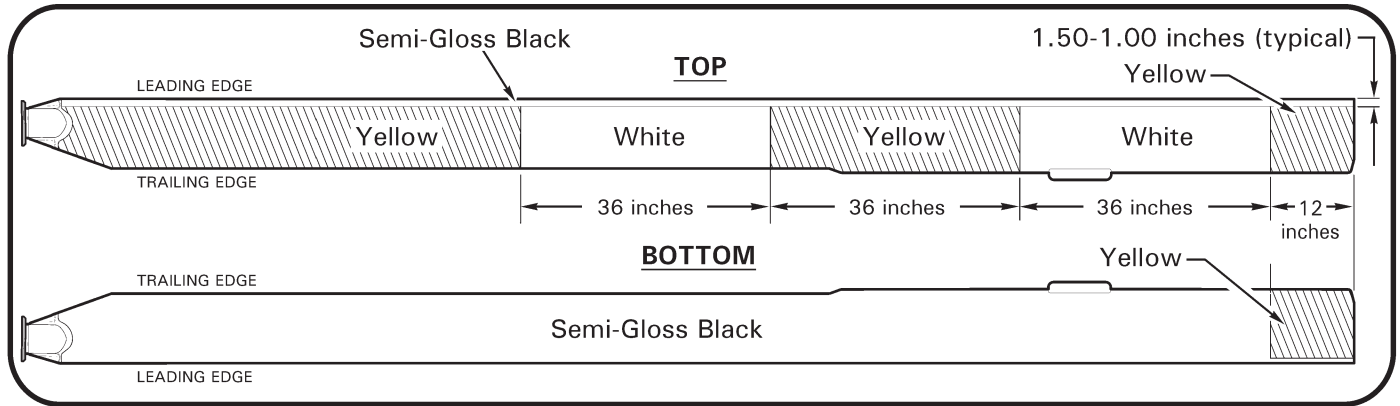

FIGURE 28-19 C016-7 MAIN ROTOR BLADE PAINT SCHEME
6. Refer to Figure 28-19. Apply dark gray, flat black, white, and/or yellow polyurethane enamel, as required, to primed area in accordance with paint manufacturer’s recommendations.